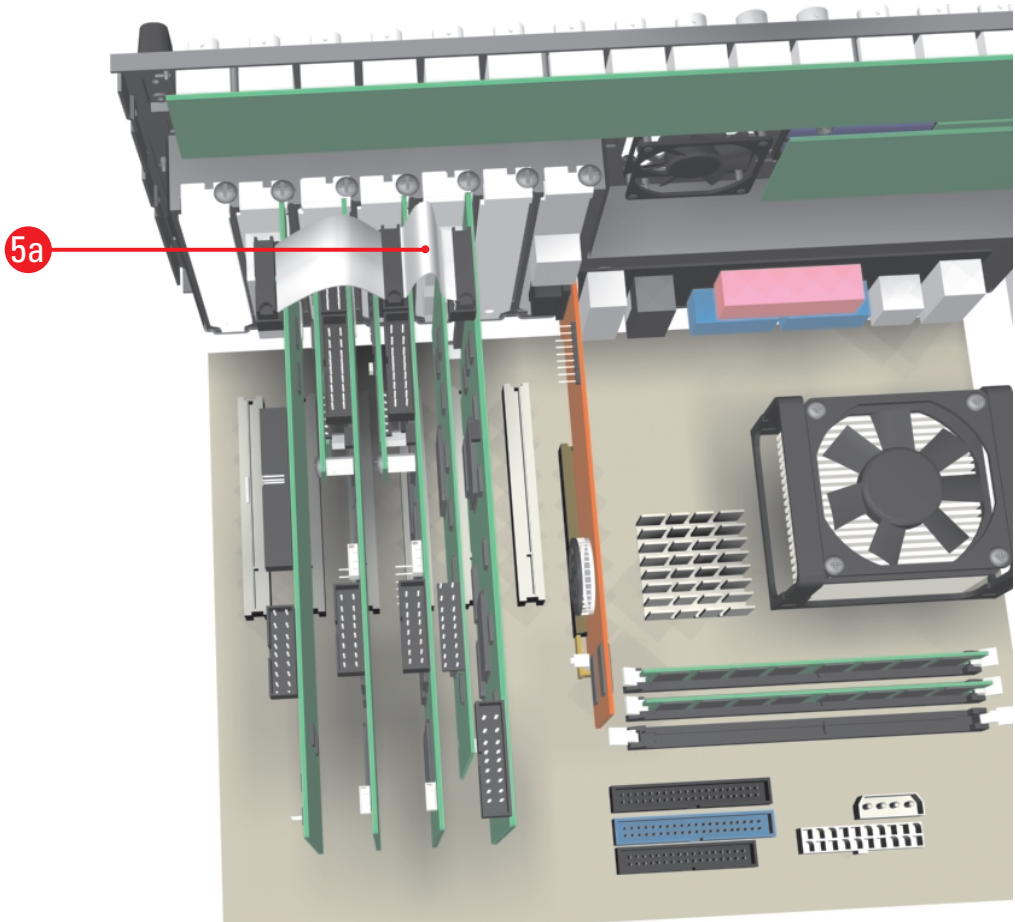

Figure 13. Primary Capture Card Video Input Cable
- a. Connect the rear video input ribbon cable from the primary capture card to the DX8000-MUX16 card. Refer to Figure 13.